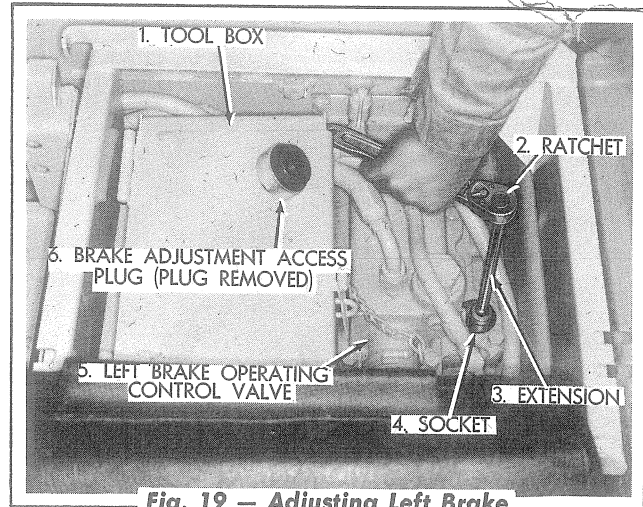

Fig. 19 — Adjusting Left Brake
1. Remove the brake adjustment access plug (Fig. 19).